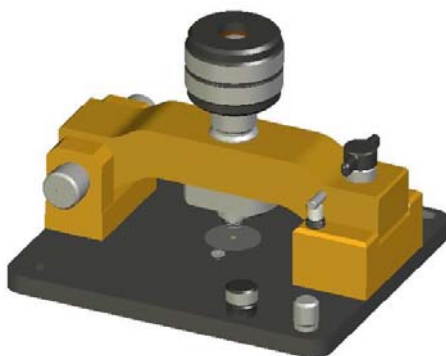

Fig 3. Angled View of Wire Holder Diamond ATR Top Plate 10565
- 1 MKII Golden Gate™ Wire Holder 45° ATR top plate (Fig 3)